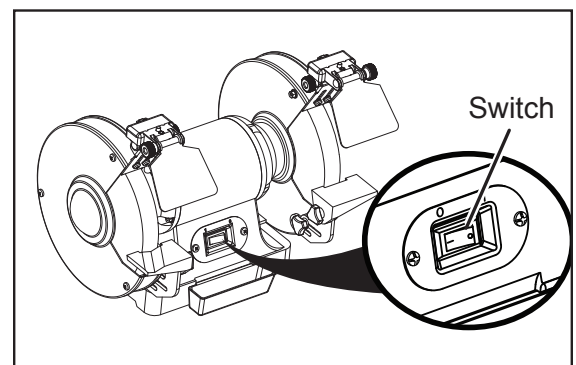

Fig. 9
2. Turn the ON/OFF switch to “I”. Once the tool is up and running, allow it to reach full speed before grinding. This will take about 15 seconds (Fig. 9).